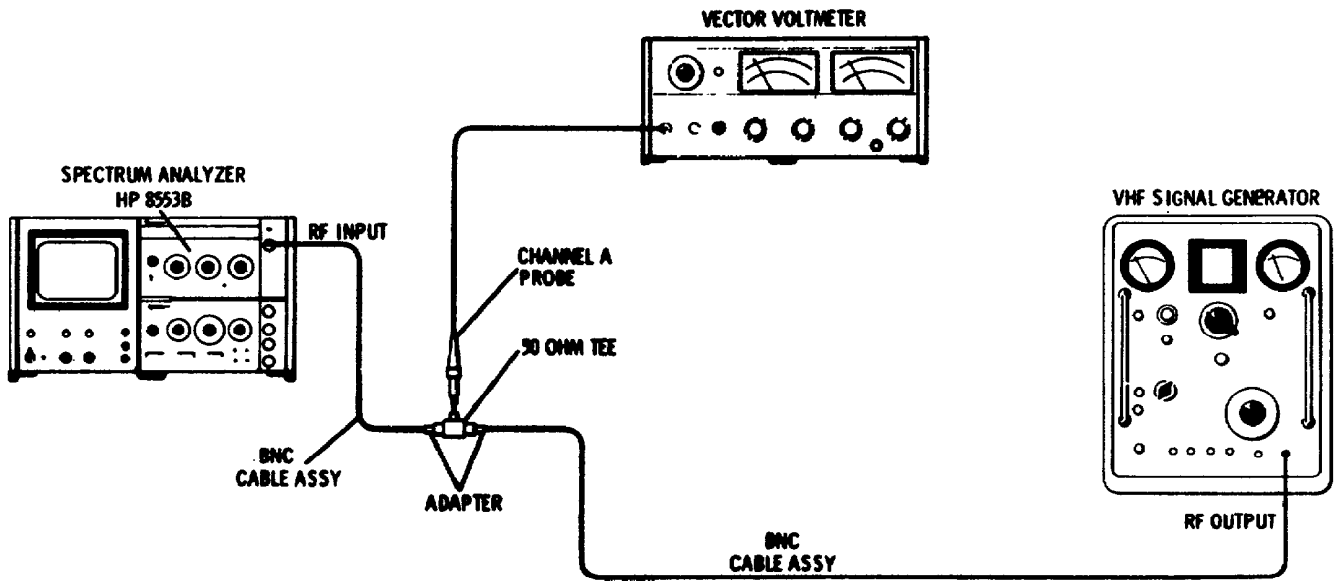

Figure 4-9. Frequency Response Test: 10 MHz to 110 MHz
1. To check the analyzer frequency response from 10 MHz to 110 MHz, connect the test setup as shown in Figure 4-9. Make the following control settings